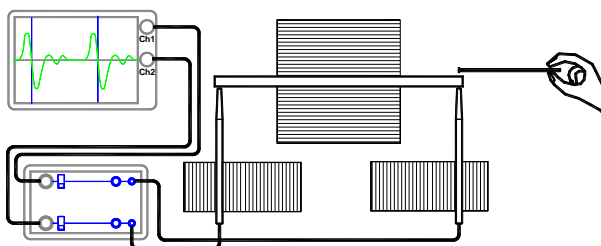

Fig. 4 Experiment set-up for investigating propagation of transverse sound waves in rods
- Set up the experiment as shown in Fig. 4. Use the 400-mm stainless steel tube as the sample. Make sure that the distance between the microphone probe and the test rod is about 1 mm. Example oscilloscope settings could be time base: 20  $\mu\text{s}/\text{div}$ , vertical deflection: 2 V/div DC, CH2 1 V/div DC; trigger: source CH1, type edge, mode normal, threshold 1 – 2 V.
- Use the beater to strike the rod as shown in Fig. 4.